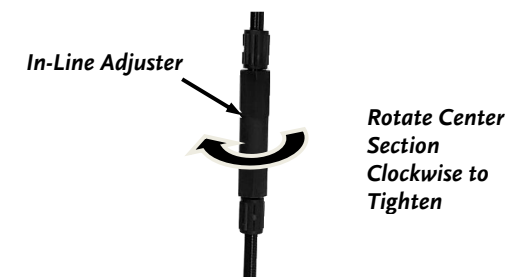

Figure 31
1. Locate the Inline Adjusters along the right and left Handlebar (**Figure 31**).
If the Vertical rotation seems to be lessening, tighten Inline Adjuster as described above (**Figure 31**).
If the Traction Drive is slipping excessively, tighten Inline Adjuster as described above (**Figure 31**).